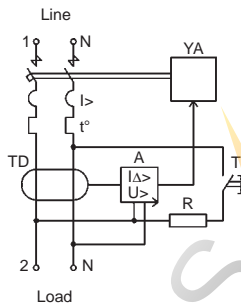

Figure 2. Electric schematic diagram of AD12M.
2.5 Electric schematic diagrams of CB is shown in Figure 2.